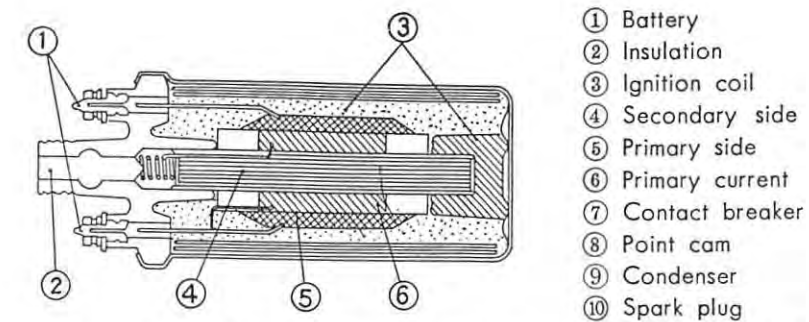

Fig. 11-5. Function diagram of Ignition coil of Model CB72, 77.
The principle of ignition coil is similar to that of induction coil. As shown in Fig. 11-5, rotating cam axle and crank with constant periodical relation, there generates high voltage on the secondary coil as follows.
- h. Then returning cam angle to original state to actuate the function as stated (a) to follow the same process repeatedly (Fig. 11-5~Fig. 11-7).